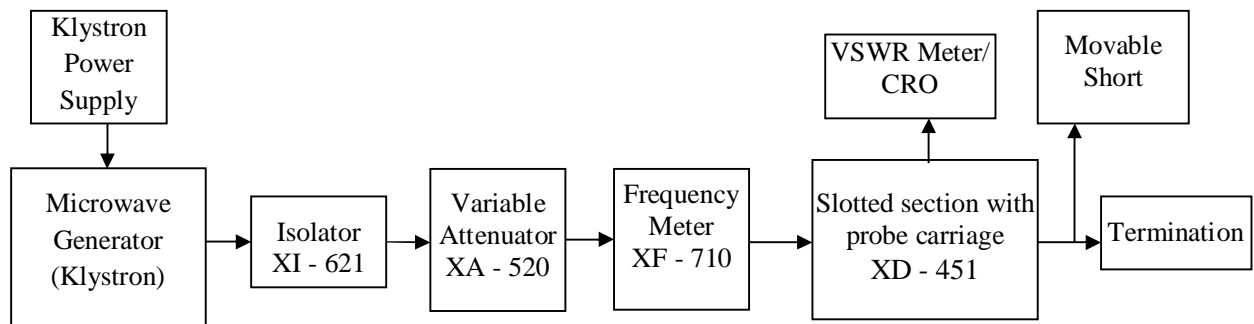

Fig.7.1 Experimental set up for frequency & wave-length measurement
- 1 Set up the equipments as shown in Fig.7.1.